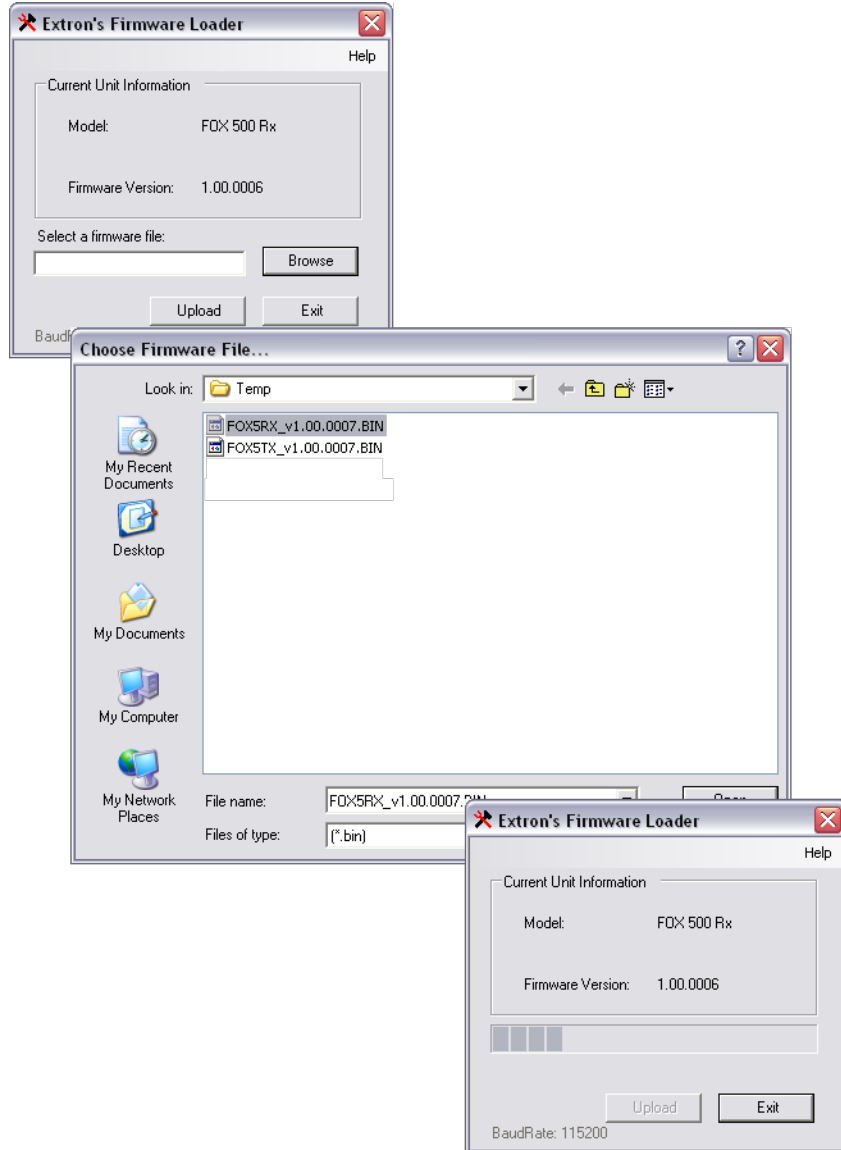

Figure 4-17 — Open window
5. Click **Tools > Update Firmware**. The Extron Firmware Loader appears (figure 4-17).